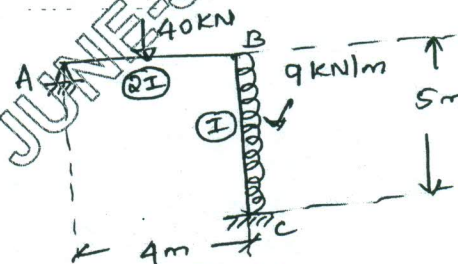

Fig.Q.4
- 4 Analyze the rigid jointed frame shown in Fig.Q.4 by flexibility method. Use force transformation approach. Take horizontal and vertical reaction at 'A' as redundant. (16 Marks)